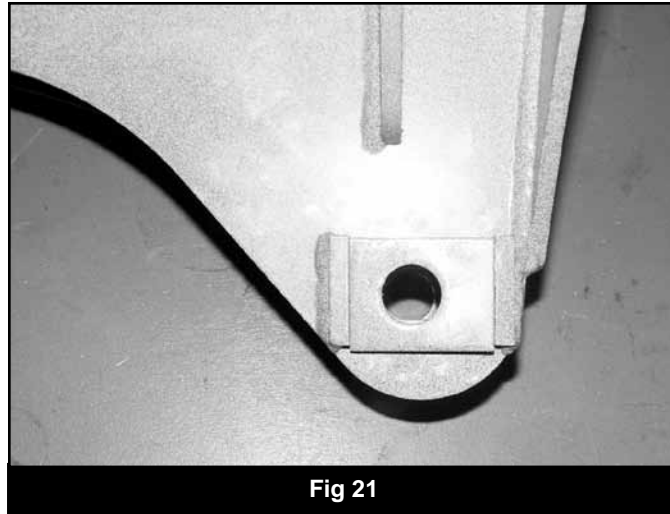

Fig 21
56. Attach the track bar to the new bracket with the OE hardware. Turn the steering wheels to aid in aligning the track bar in the bracket. Torque hardware to 406 ft-lbs. Install the provided cam washers between the alignment tabs on the bracket. If installing a 4" lift, the cams will offset closer to the driver's side. They will offset to the passenger's side for a 6" lift. (Fig. 21)